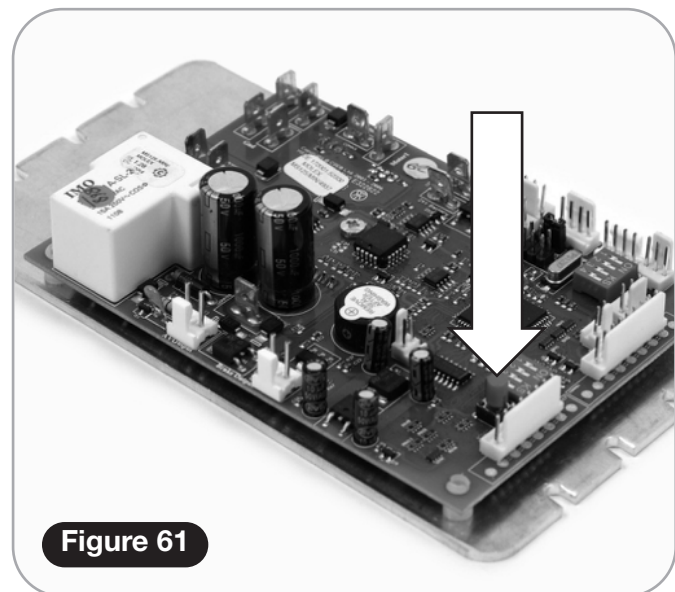

Figure 61
- i Press and hold the red button on the PCB (**Figure 61**) – a yellow LED will illuminate on the PCB.
- iii Press and hold the red button on the PCB **(Figure 61)** – a yellow LED will illuminate on the PCB.